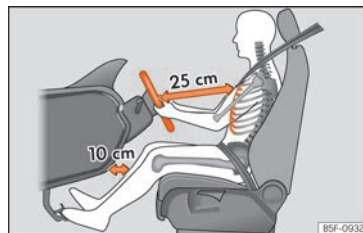
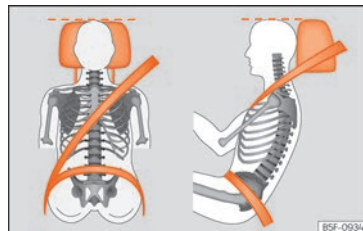

Fig. 82 The correct distance between the driver and the steering wheel must be at least 25 cm (10 inches).
Fig. 83 Correct belt web and head restraint positions
- Adjust the head restraint so that its upper edge is at the same level as the top of your head, or as close as possible to the same level as the top of your head and under no circumstances below eye level. Keep the back of your neck as close as possible to the head restraint »» Fig. 82 and »» Fig. 83.
- Adjust the steering wheel so that there is a distance of at least 25 cm (10 inches) between it and your chest »» Fig. 82 and so that you can hold the steering wheel with both hands on the outside of the ring at the 9 o'clock and 3 o'clock positions with your arms slightly bent.
- Adjust the driver seat forwards or backwards so that you are able to press the accelerator, brake and clutch pedals to the floor with your knees slightly angled and the distance between your knees and the dash panel is at least 10 cm (4 inches) »» Fig. 82.